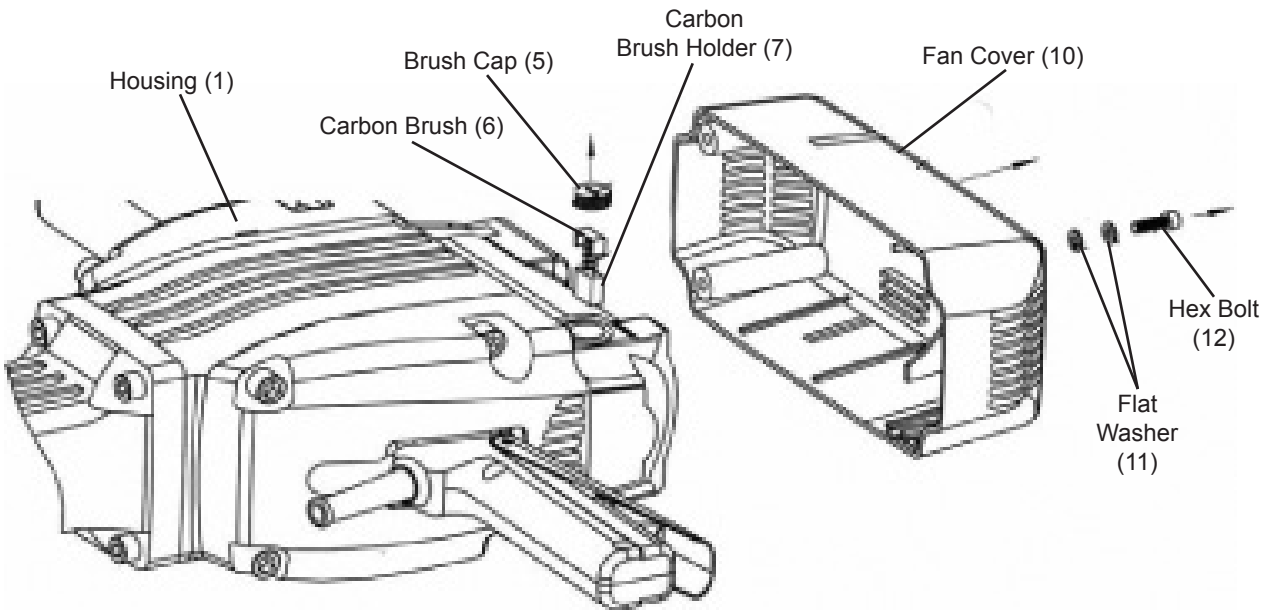

Figure 5
1. Remove the Fan Cover (10) by loosening the Hex Bolt (12) and Flat Washers (11). See Figure 5, below.
2. Slide Fan Cover off of Housing (1).
3. Remove Brush Cap (5) from Housing.